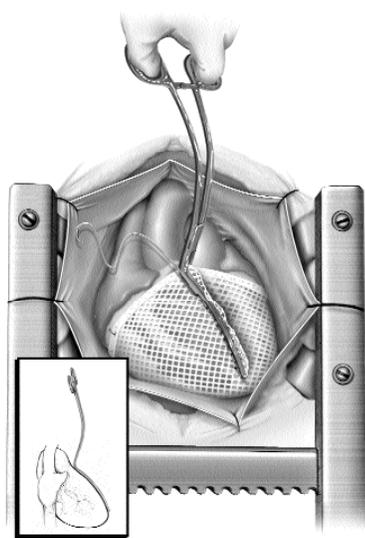

Figure 1: Approximate Anterior Seam
- a. Using CorCap™ fitting clamp, gather excess CorCap CSD fabric toward the anterior seam. (See **Figure 1**.)